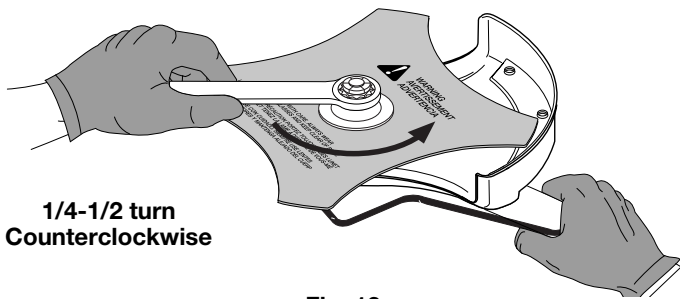

Fig. 12
- Without a torque wrench, use a 5/8 inch closed-end or socket wrench, turning the nut until the blade retainer is snug against the shaft bushing. Make sure that the blade is installed correctly, then rotate the nut an additional 1/4 to 1/2 turn counterclockwise (Fig. 12).